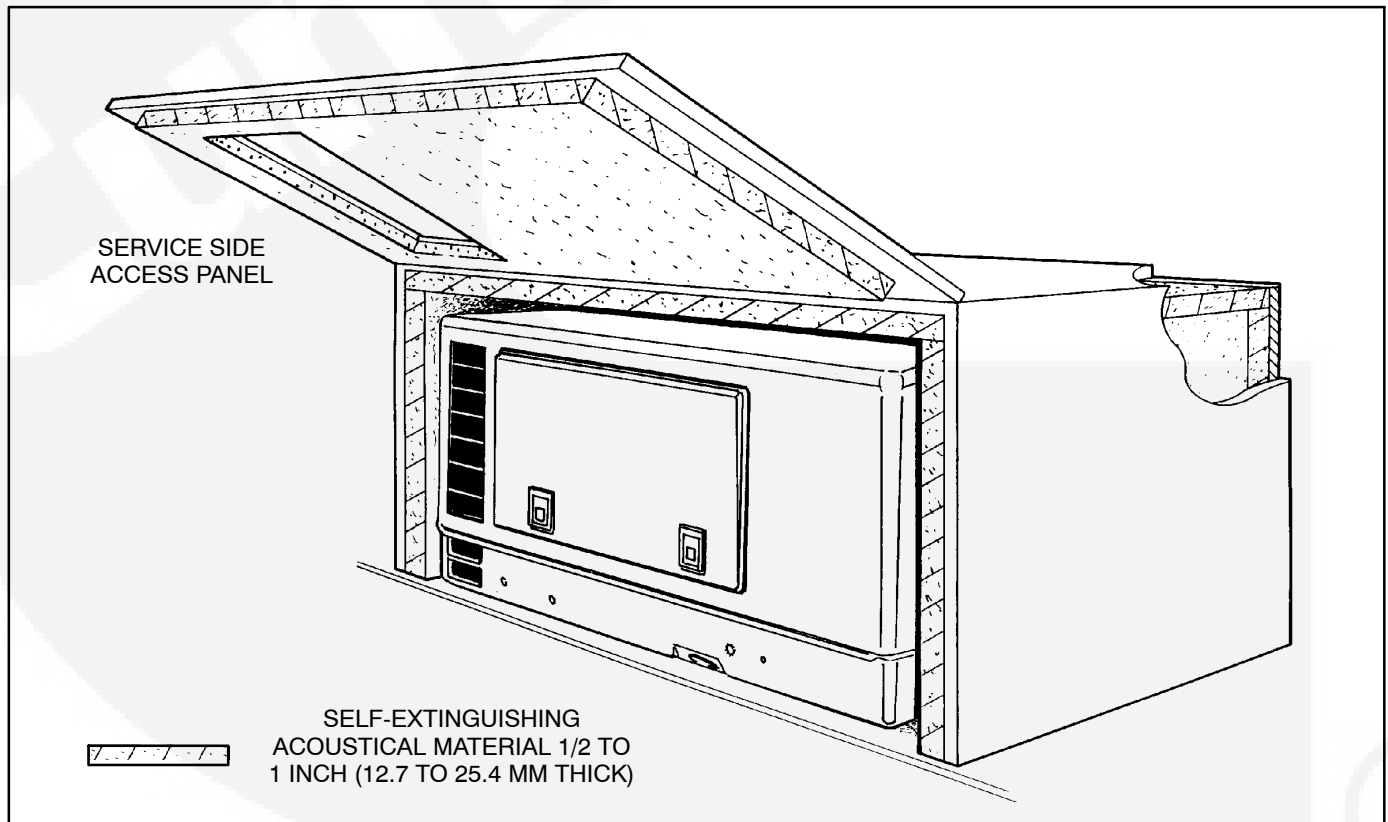

FIGURE 5-2. NOISE REDUCTION COMPARTMENT DESIGN
- Cover the back, top and sides of the compartment (not the compartment base) with fiberglass or other self-extinguishing, sound-absorbent material. Sound insulation and adhesive should be rated at 200°F (90°C) minimum. See Figure 5-2 to design the set compartment for optimum noise reduction.